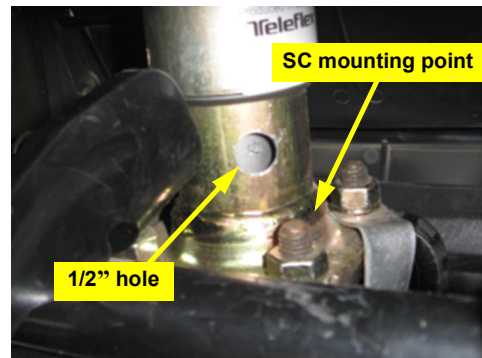

Figure 2a: Drilled steering column
- a. Locate the four nut/studs at the base of the steering column behind the pedals shaft and remove the right rear nut (nearest the driver). Using the prepared switch bracket as a template on the stud (using the new hole), mark the steering column in the center of the pre-drilled hole. Remove the bracket and drill a 1/2" hole in the steering column (Figure 2a).